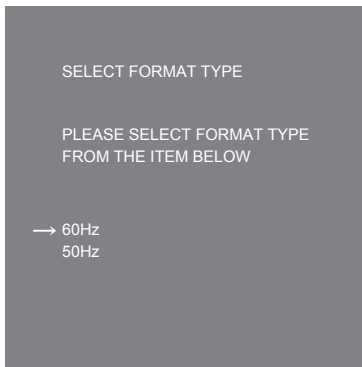

Fig. 1
- 4** Turn the <SELECT> dial button to move the cursor (arrow) to the frequency to set. (Fig. 1)